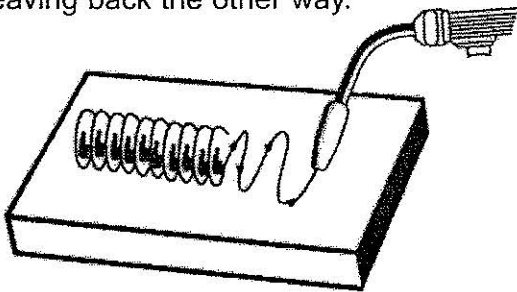

Figure 13. Weave Bead
2. The **WEAVE BEAD** (Figure 13) is used when you want to deposit metal over a wider space than would be possible with a stringer bead. It is made by weaving from side to side while moving with the gun. It is best to hesitate momentarily at each side before weaving back the other way.